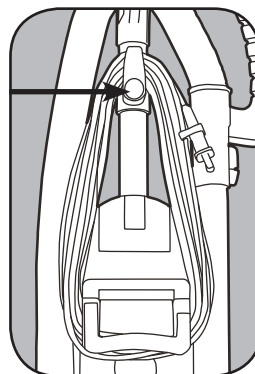

Fig. 2
3. Turn the upper cord storage hook to the upright position and wind the power cord around the cord storage hooks when storing the vacuum cleaner (Fig. 2).
To release the cord, rotate the hook downward and the cord will drop off the handle for immediate use (Fig. 2).